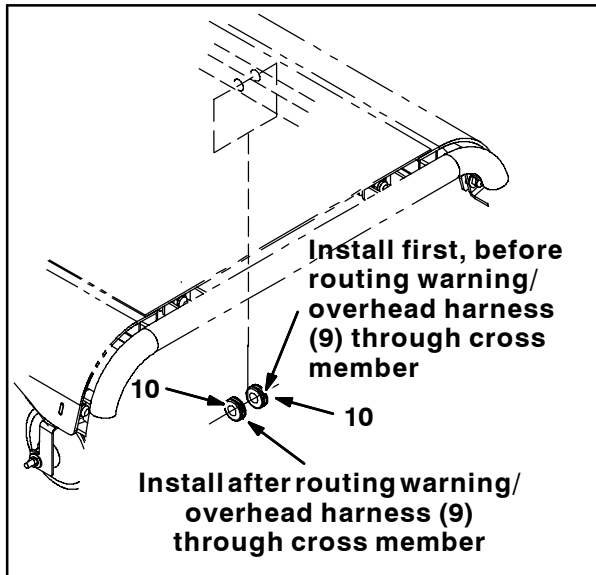

FIG. 5
5. Insert a grommet (10) into the rear hole in the rear cross member of the overhead guard and route the warning/overhead harness (9) through the grommet and the front hole in the rear cross member. Refer to Fig. 5.
6. Slide the remaining grommet (10) onto the warning/overhead harness (9) and insert the grommet into the front hole in the rear cross member of the overhead guard. Refer to Fig. 5.